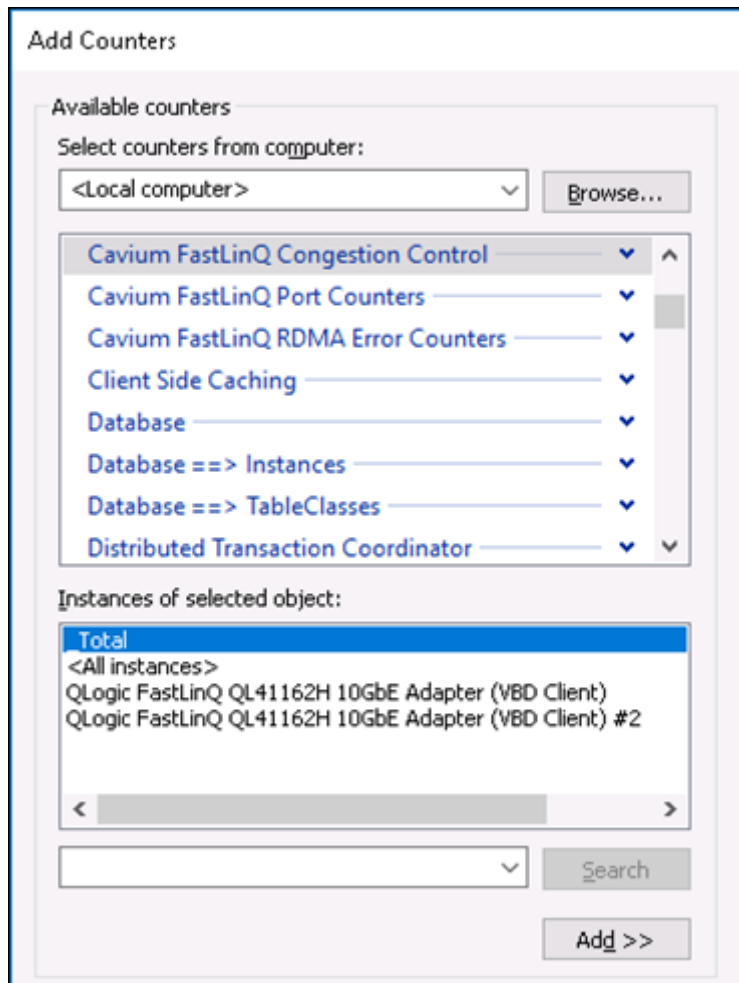

Figure 6-2. Add Counters Dialog Box
2. Open the Add Counters dialog box. Figure 6-2 shows an example.